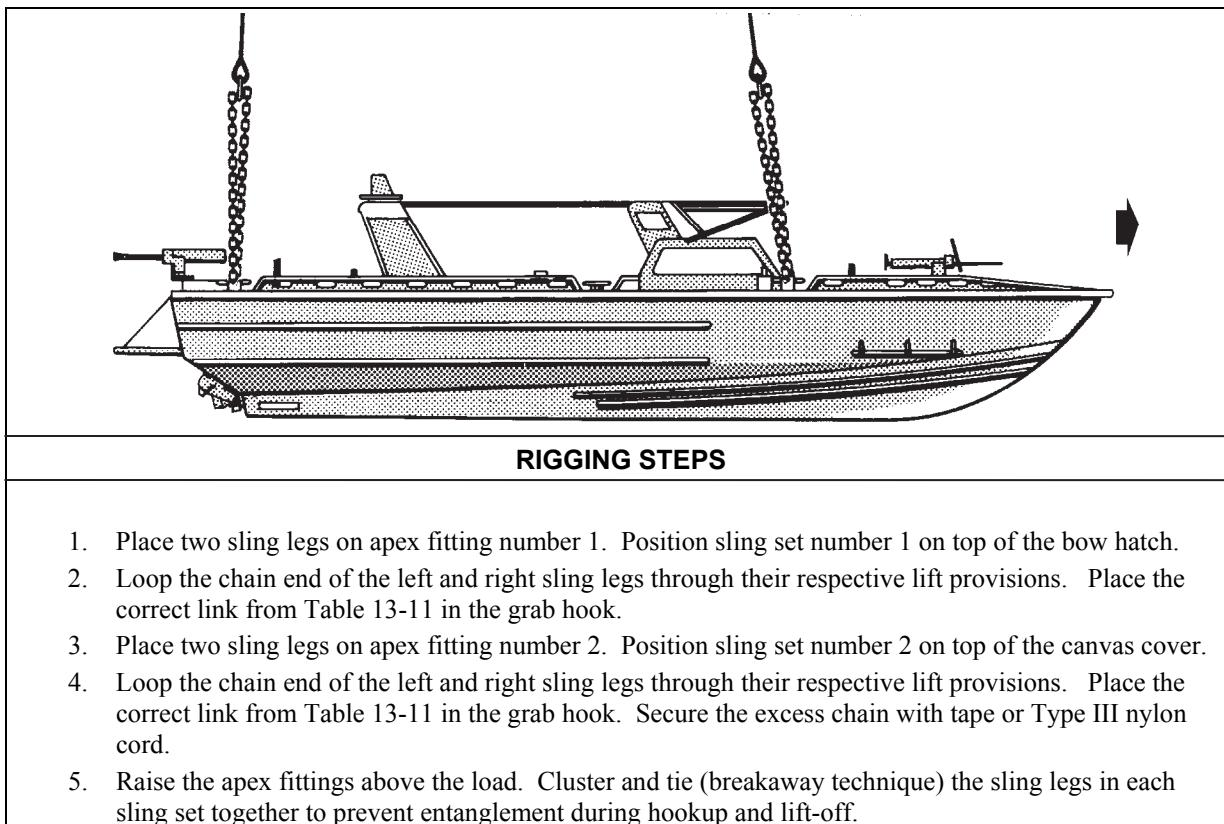

Figure 13-11. 35-Foot Riverine Assault Craft with or without Trailer
- **Rigging.** Rig the load according to the steps in Figure 13-11.